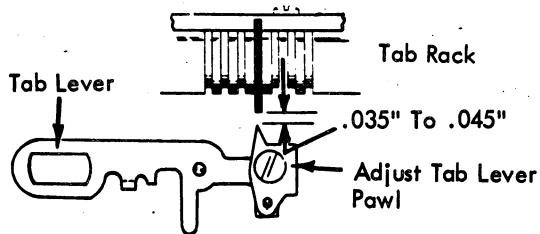

FIGURE 240. Tab Lever Pawl
2. **Tab Lever Pawl** - Adjust the pawl forward or back on the tab lever so that the tip of the pawl clears a SET tab stop by .035" to .045" with the tab lever at rest (Fig. 240).